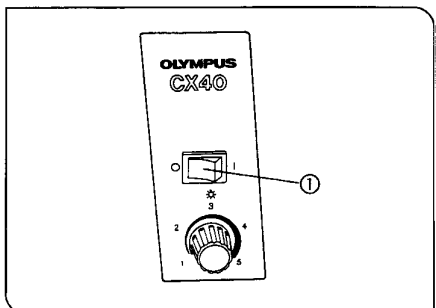

Fig. 8
8 Connecting the Power Cord (Fig. 8)
- ⚠ Make sure that the main switch ① is on "O" (OFF) before connecting the power cord. (Fig. 8)